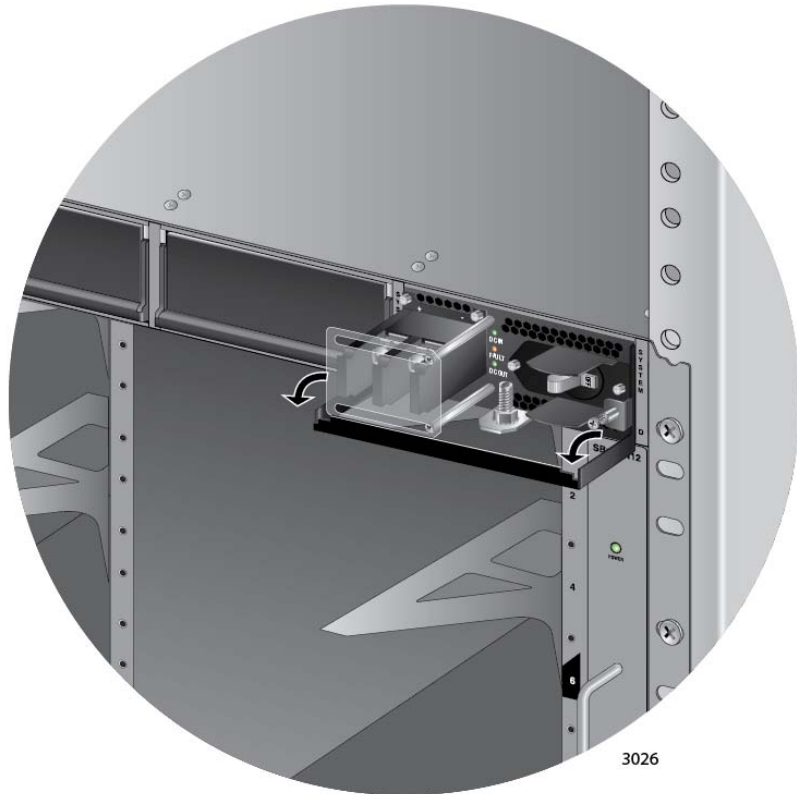

Figure 58. Locking the Handle on the AT-SBxPWRSYS1 DC System Power Supply
8. Lower the locking handle of the power supply module to secure the module in the slot, as shown in Figure 58.